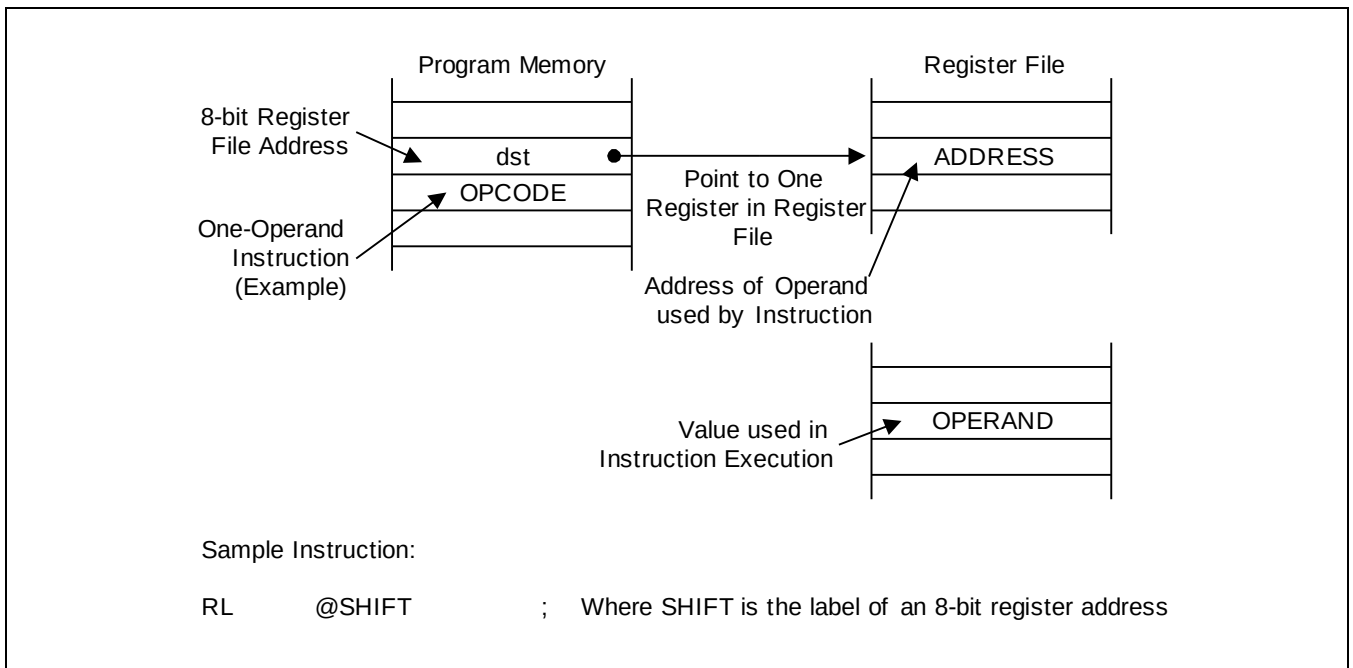
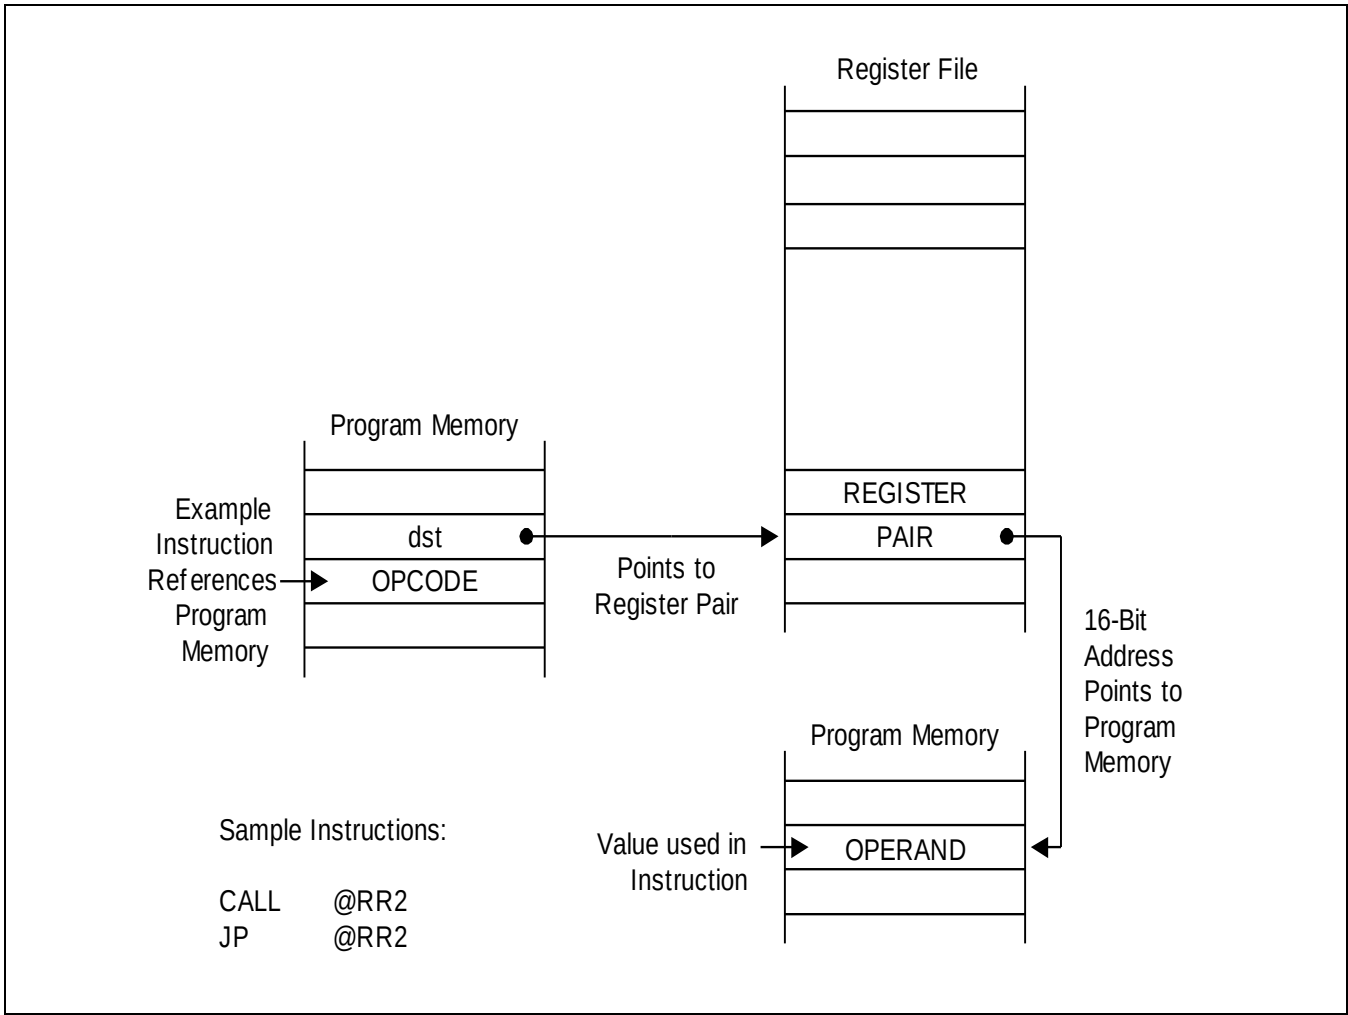
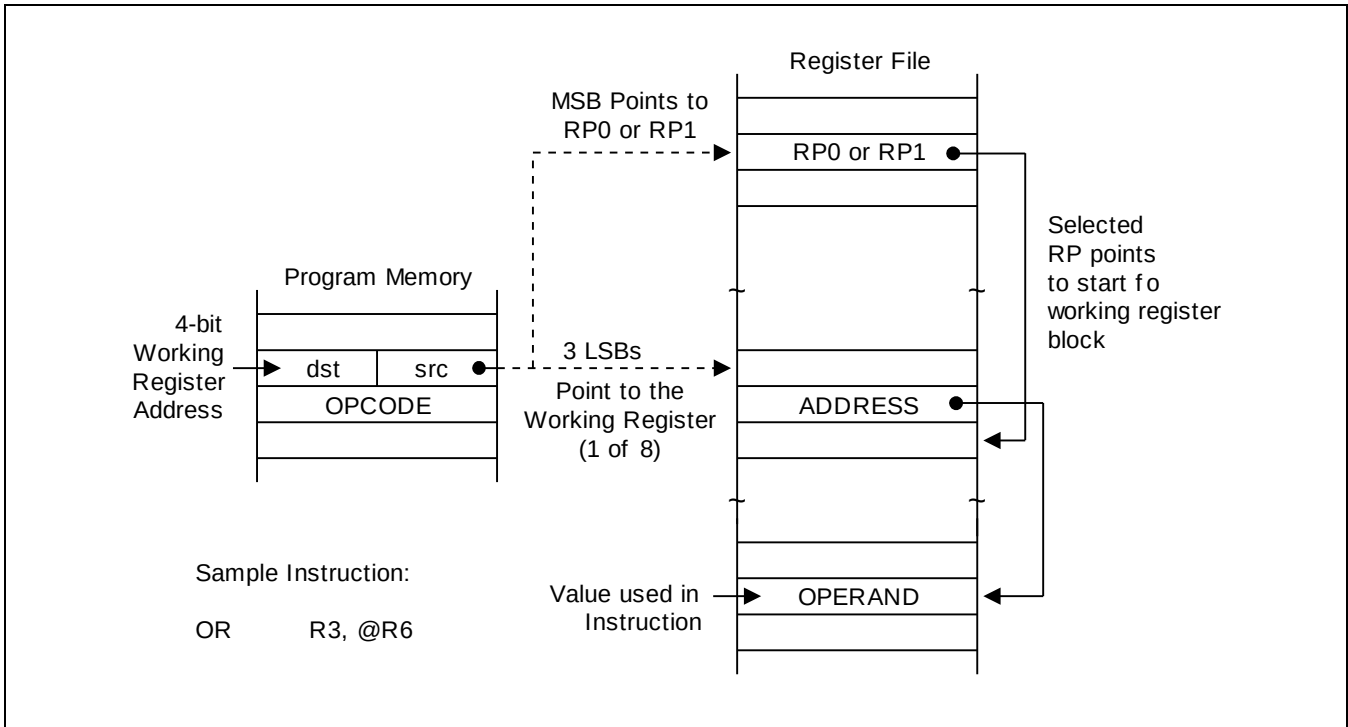
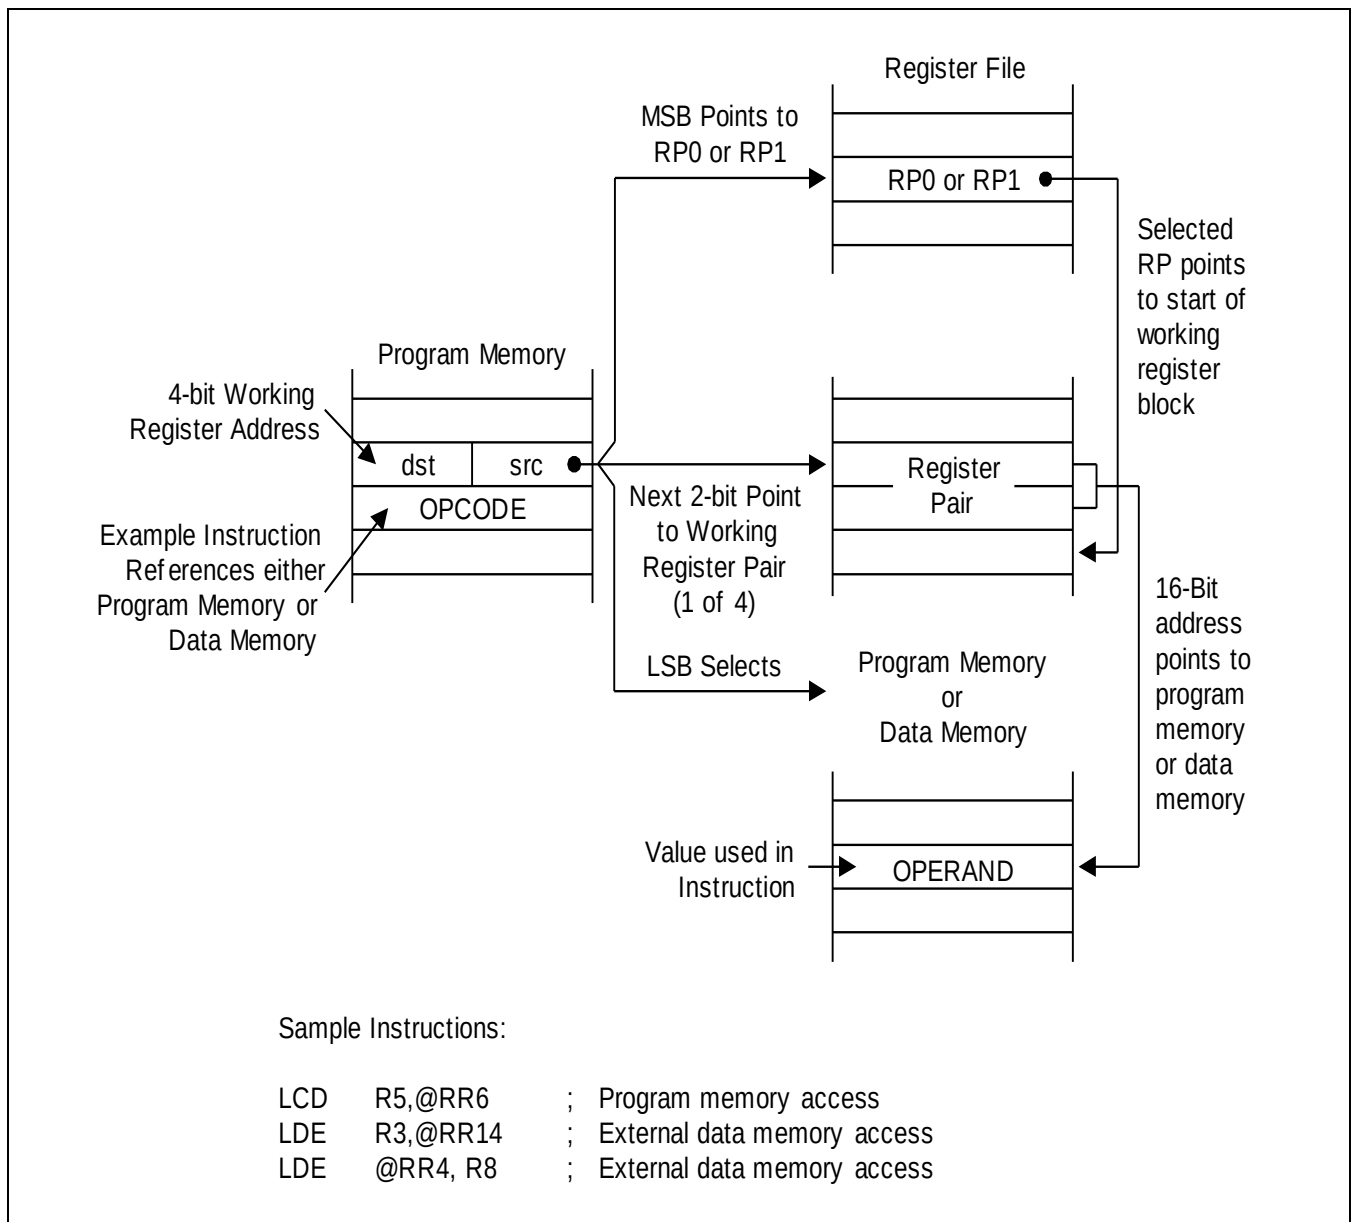

Figure 3-3 Indirect Register Addressing to Register File
Figure 3-4 Indirect Register Addressing to Program Memory
Figure 3-5 Indirect Working Register Addressing to Register File
Figure 3-6 Indirect Working Register Addressing to Program or Data Memory
3.3 Indirect Register Addressing Mode (IR)
In Indirect Register (IR) addressing mode, the content of the specified register or register pair is the address of the operand. Depending on the instruction used, the actual address may point to a register in the register file, to program memory (ROM), or to an external memory space (see Figure 3-3, Figure 3-4, Figure 3-5 and Figure 3-6).